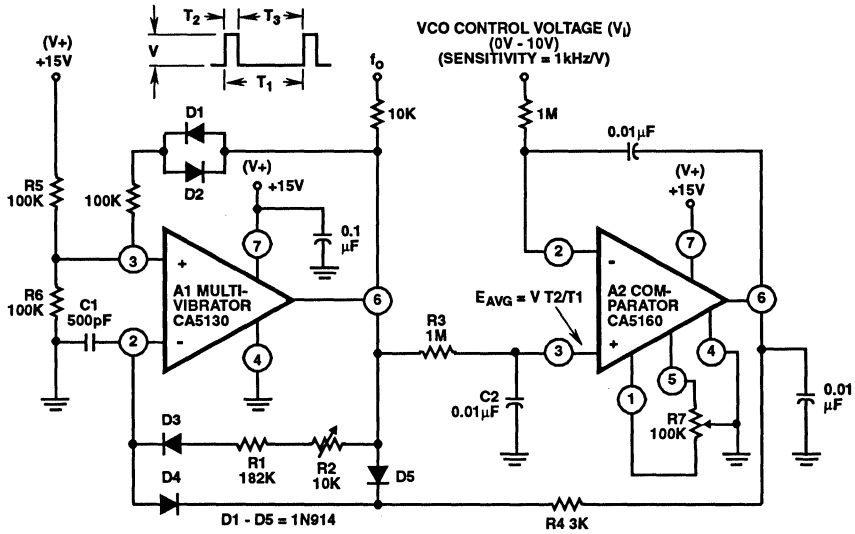

FIGURE 22. VOLTAGE CONTROLLED OSCILLATOR
The circuit diagram of a precision voltage-controlled oscillator is shown in Figure 22. The oscillator operates with a tracking error on the order of 0.02 percent and a temperature coefficient of 0.01%/°C. A multivibrator (A_1) generates pulses of constant amplitude (V) and width (T_2). Since the output (terminal 6) of A_1 (a CA5130) can swing within about 10 millivolts of either supply-rail, the output pulse amplitude (V) is essentially equal to V_+ . The average output voltage ($E_{avg} = V T_2/T_1$) is applied to the non-inverting input terminal of comparator A_2 (a CA5160) via an integrating network R_3, C_2 . Comparator A_2 operates to establish circuit conditions such that $E_{avg} = V_1$. This circuit condition is accomplished by feeding an output signal from terminal 6 of A_2 through R_4, D_4 to the inverting terminal (terminal 2) of A_1 , thereby adjusting the multivibrator interval, T_3 .